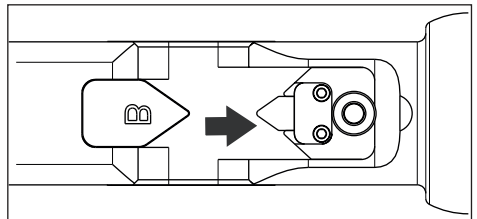

Figure 7, Piston and Blade Fully Retracted ("Home") Position
Be sure that the piston and moving blade are located in the fully retracted “home” position before placing the chain inside the cutting head. See Figure 7.
3. Be sure that the piston is in the “home” (fully retracted) position. See Figure 7.